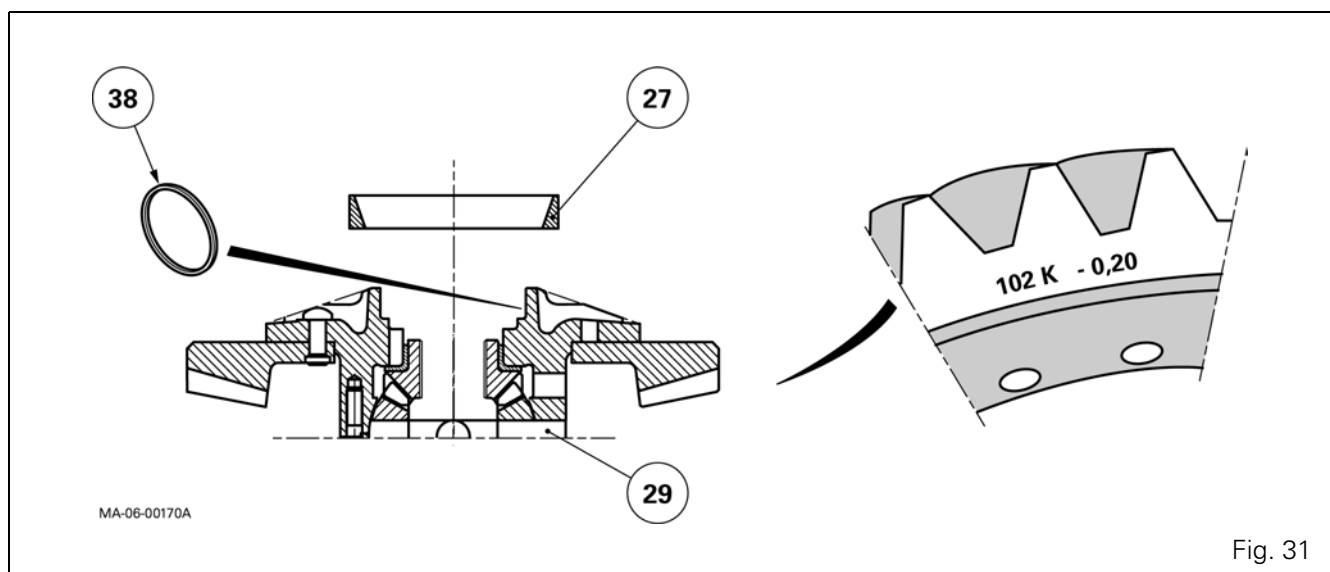

Fig. 31
104. Using a standard reversible flange extractor, remove bearing cup (27) (Fig. 31).
- Do not take into consideration the DC (ring gear offset, e.g.: -0.20) embossed on the external diameter of the ring gear after the pairing number (Fig. 31).
106. Place the previously prepared shim(s) in the cavity of half housing (29). Lubricate and insert cup (27) (Fig. 31).